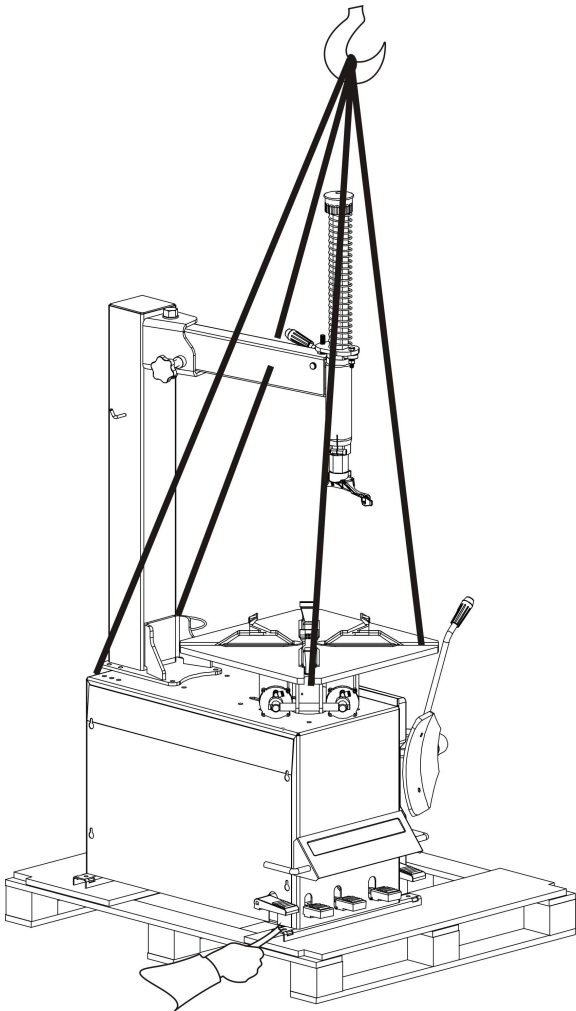

Fig.7
- Take off screws by spanner (as Fig.7) Use hoist to lift the machine, move pallet, locate the machine.